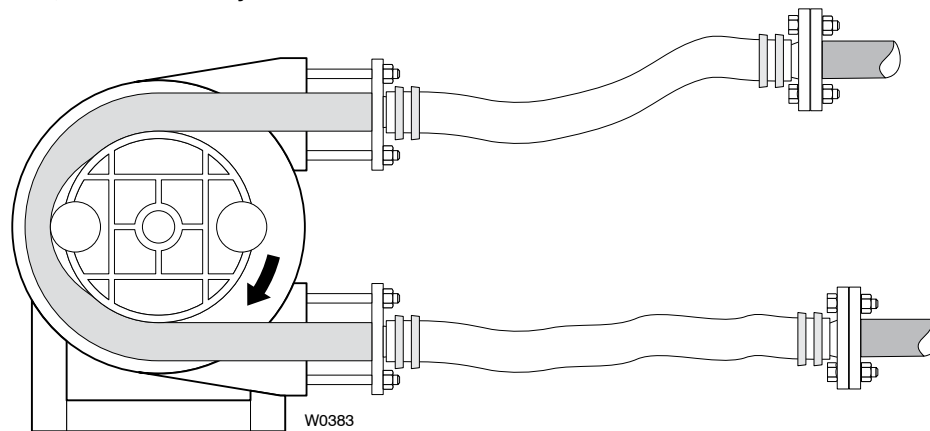

Figure 1.
- Install 4-5 feet of reinforced flexible hose between pump and rigid piping to absorb vibration, expansion and contraction, and to make maintenance easier. (See Figure 1.)
- Between the pump and hard piping, use 4-5 feet of flexible hose to reduce pulsations. (See Figure 1.)